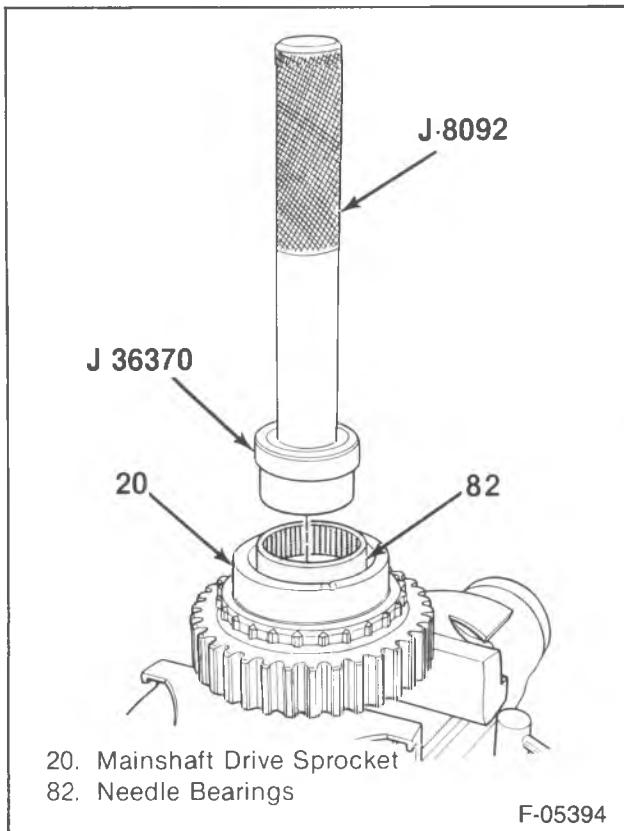
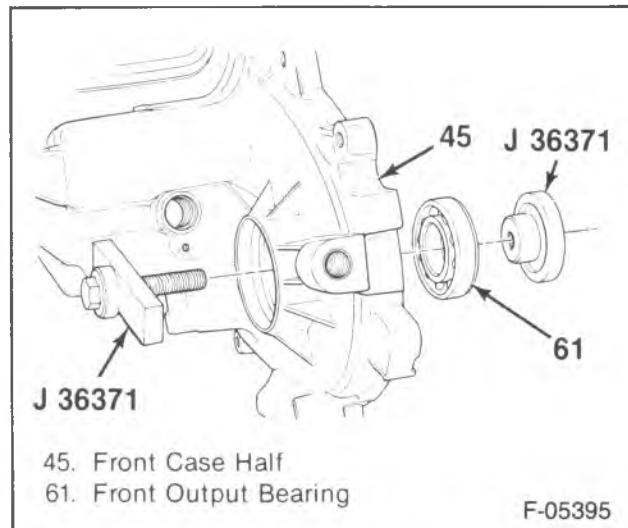

Figure 10—Installing the Needle Bearings to the Front Drive Sprocket
Figure 11—Front Output Bearing Installation
1. Needle bearings (82) to the drive sprocket (20) using J 36370 and J 8092 (figure 10).
2. Needle bearing (24), to the rear case half (17) using J 36372 and J 8092.
3. Bearing (61) to the front case half (45) using J 37371.
4. Retainer (60) (figures 11 and 12).